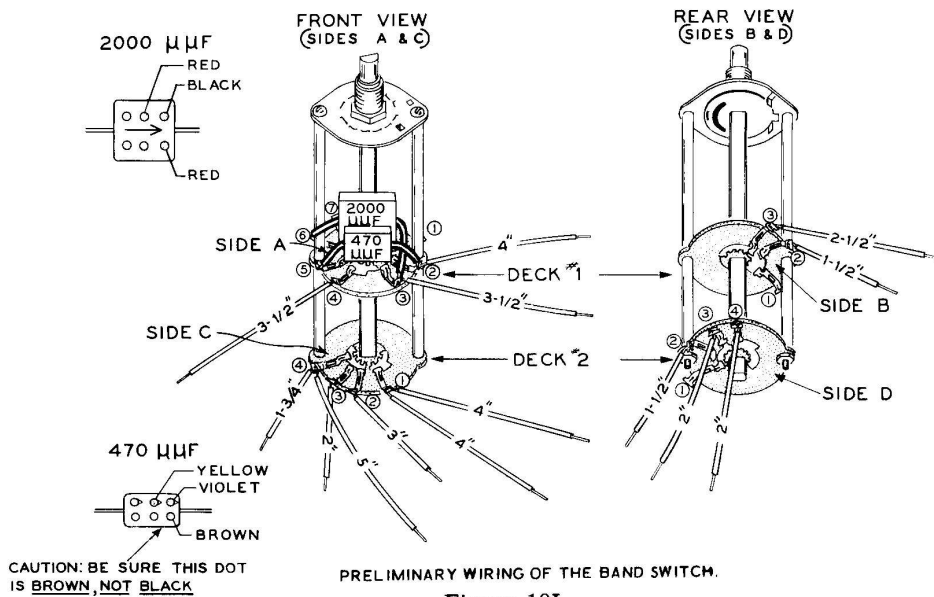

Figure 10L
Refer to Figure 10L for the following steps.
- (✓) (P) Using sleeving on both leads, connect a 2000 $\mu\mu\text{f}$ mica capacitor from lug 3 (NS) to lug 6 (S) on side A of the band switch.
- (✓) (P) Using sleeving on both leads, connect a .00047 μfd (470 $\mu\mu\text{f}$) mica capacitor from lug 2 (NS) to lug 5 (S) on side A of the band switch. This capacitor may have the color dots to identify it, or it may have .00047 (or just 470) printed on it. See the detail drawing in Figure 10L.
- (✓) (P) Connect a 3-1/2" length of hookup wire to lug 3 of side A of the band switch (S).
- (✓) (P) Connect a 4" length of hookup wire to lug 2 of side A of the band switch (S).
- (✓) (P) Connect a 3-1/2" length of hookup wire to lug 4 of side A of the band switch (S).
- (✓) (P) Connect two 4" lengths of hookup wire to lug 1 of side C of the band switch (S).
- (✓) (P) Connect a 3" length of hookup wire to lug 2 of side C of the band switch (S).
- (✓) (P) Connect a 3-1/2" length of hookup wire to lug 3 of side C of the band switch (S).
- (✓) (P) Connect a 1-3/4" length of hookup wire to lug 4 of side C of the band switch (NS).
- (✓) (P) Connect a 4-1/4" length of hookup wire to lug 4 of side C of the band switch (S).
- (✓) (P) Connect a 1-1/2" length of hookup wire to lug 2 of side B of the band switch (S).
- (✓) (P) Connect a 2-1/2" length of hookup wire to lug 3 of side B of the band switch (S).